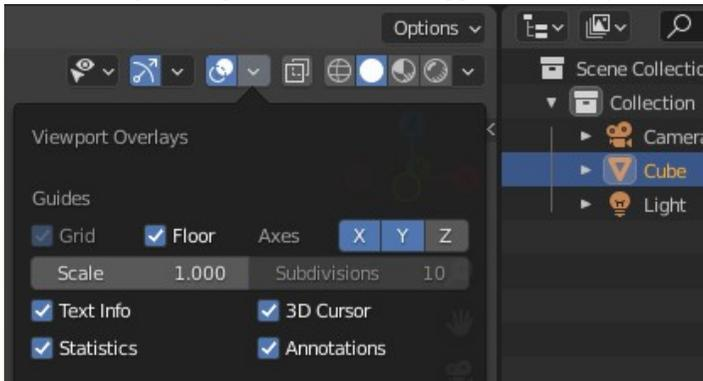

Figure 2-7 Viewport Overlays Statistics
9. *Decimate* is a way to remove vertices but preserve, as far as possible, the original shape. Try **Add Modifier ▶ Decimate**. A clearer display of the scene statistics is also available using the Viewport Overlays options (the drop-down next to the overlapping circles icon as shown in Figure 2-7) as well as other features to customize the 3D Viewport. With smooth shading, you can often reduce the number of faces quite significantly before the object becomes too misshapen, but notice that the faces become rather randomly shaped, which might be a problem for certain applications (as you'll see later).